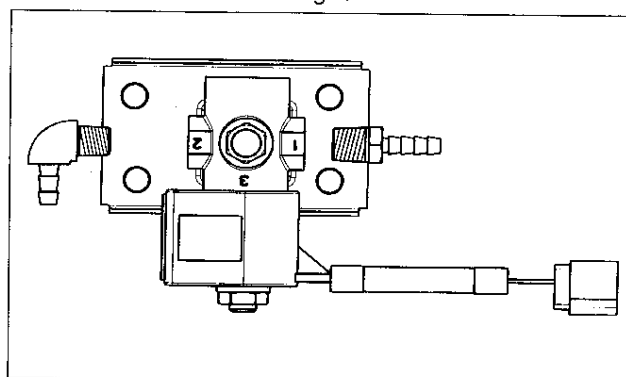

Fig. 9
- Attach the hose fittings to the solenoid (see Fig. 9). Be sure to orient the 90° fitting with the outlet pointing toward the vacuum solenoid body, as shown in Figure 9.
- e. Attach the Vacuum Solenoid (P/N 3933133) to the mounting bracket using the two #8-32 screws supplied in the kit, using Loctite® 242 on the screw threads. Refer to Fig. 9 for proper orientation of the solenoid on the bracket.
- b. Attach the other end of the hose to the 90° elbow connected to the solenoid port marked "2" (see Fig. 9).